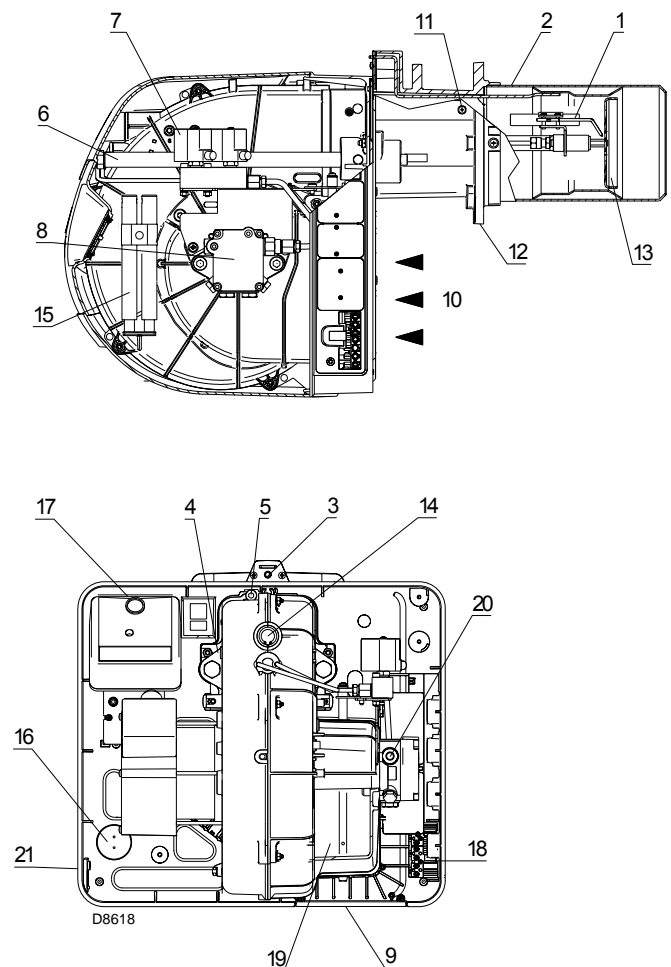

Fig. 4
if the control box 17)(Fig. 4) pushbutton (red led) lights up, it indicates that the burner is in lockout.
- 2 - Extensions 15)(Fig. 4 to page 11) for slide bars 6)